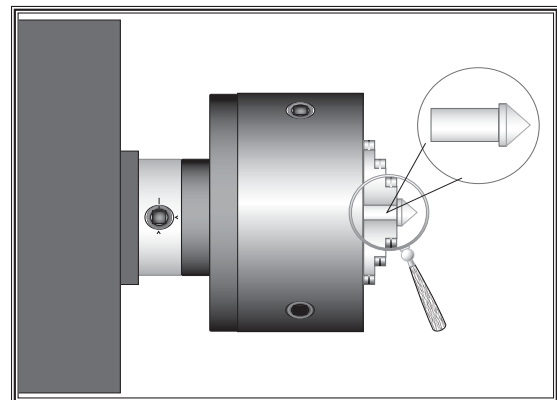

Figure 39. Tailstock centering dead center.
3. Using the other piece of stock, make a 60° dead center like the one shown in Figure 39.